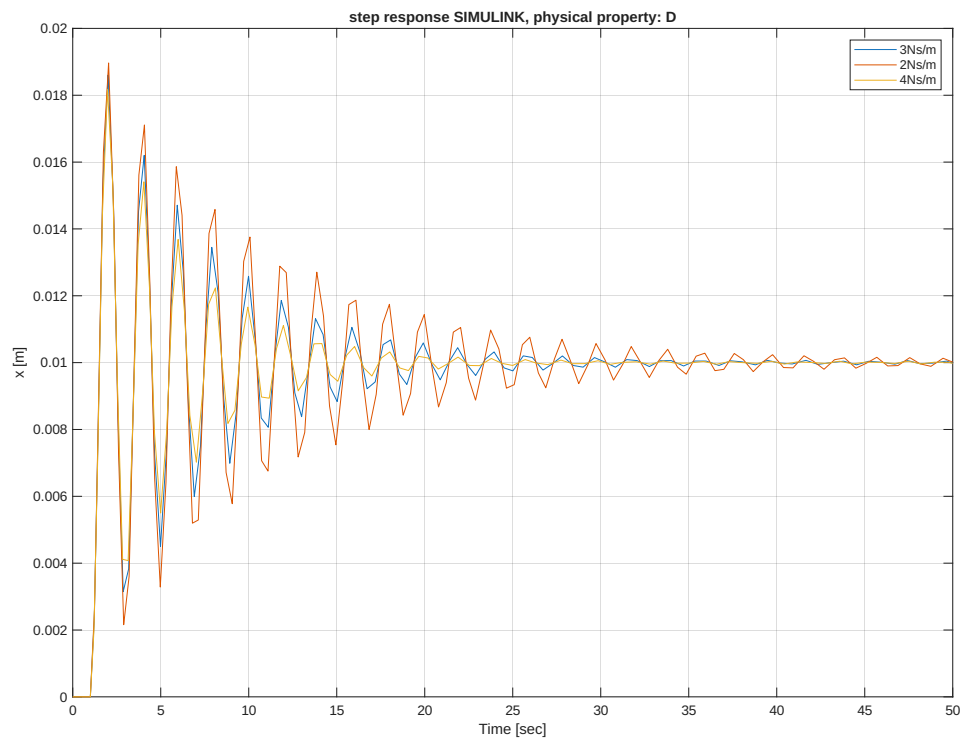

Figure 9: Step response with different values for the damper constant.
**Influence of damper constant (D):** As shown in figure 9, changing the damper constant influences only the amplitude, more specifically the rate of amplitude decrease over time. A reduced damper constant leads to a slower decrease of amplitude over time, while an increased damper constant leads to a faster decrease of amplitude over time. The oscillation interval is not being influenced by the damper value.